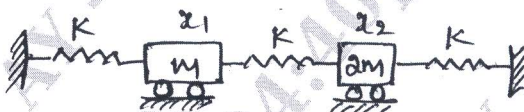

Fig.Q7(b)
- b. Use Lagrange's equation to find the natural frequency and amplitude ratio of the system shown in Fig.Q7(b).